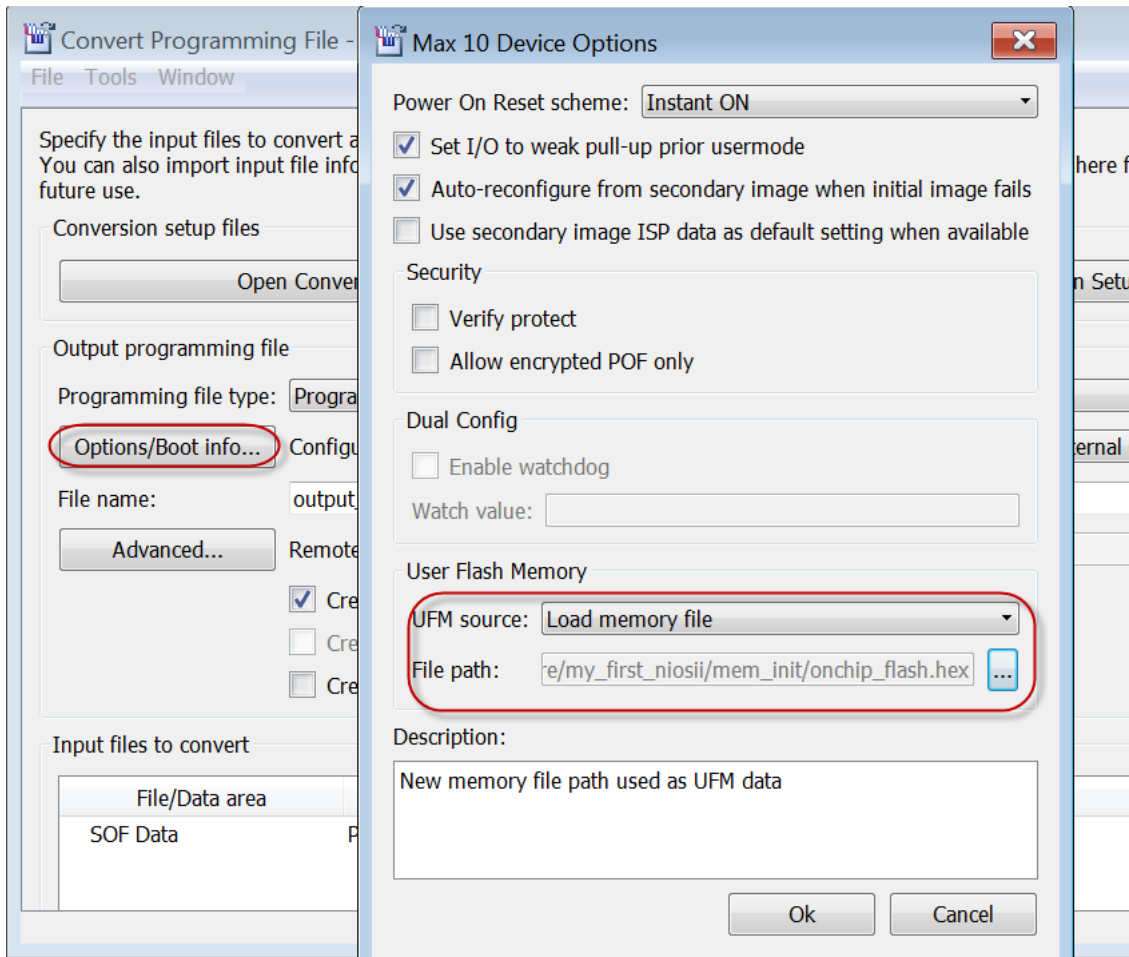

Figure 3-14 Set Load memory file as UFM source
3. Click **Options/Boot info...**, and the dialog of MAX 10 Device Options will appear. Choose **Load memory file** for **UFM source** and browse to the generated Altera On-chip Flash HEX file (onchip_flash.hex) in the File path, as shown in **Figure 3-14**. Click **OK**.